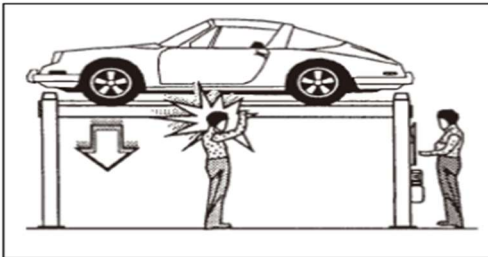

Figure 33 - Risk of injury under the platforms
- **During the lifting and lowering of the lifting platform, stay clear of the moving parts of the lift. The operator needs to confirm that there is no one in the hazardous area before the lifting operation. (Figure 33)**